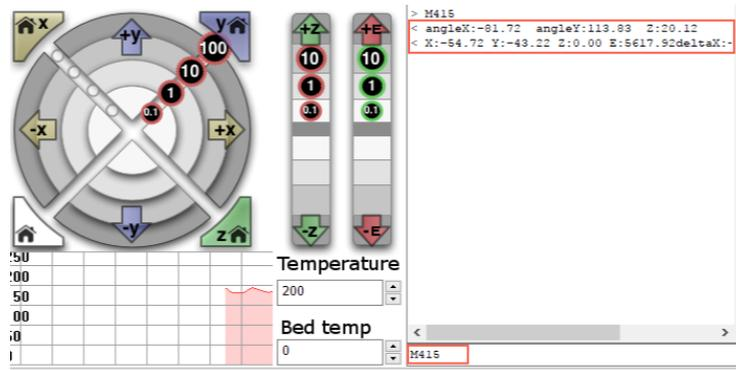

Figure 5.113 Input command M415
- Input command M415 on the lower right of the Operational page to get the current coordinates, as shown in Figure 5.113.